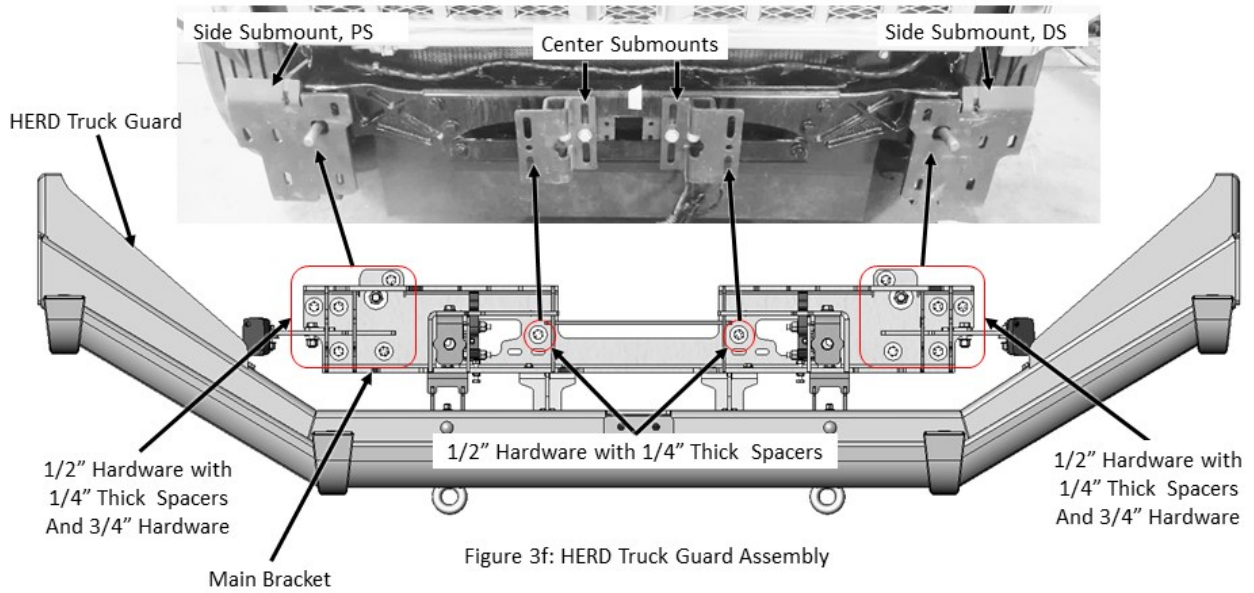

Figure 3f: HERD Truck Guard Assembly
6. Lift the Main Bracket and Truck Guard (opened) Assembly and mount it to the truck. Fasten the Main Bracket to the HERD Side and Center Submounts using the provided 1/2" Hardware with 1/4" Thick Washers and 3/4" Hardware; see Figure 3f. **Torque the 1/2" Hardware to 96 ft-lb, and the 3/4" Hardware to 240 ft-lb.**